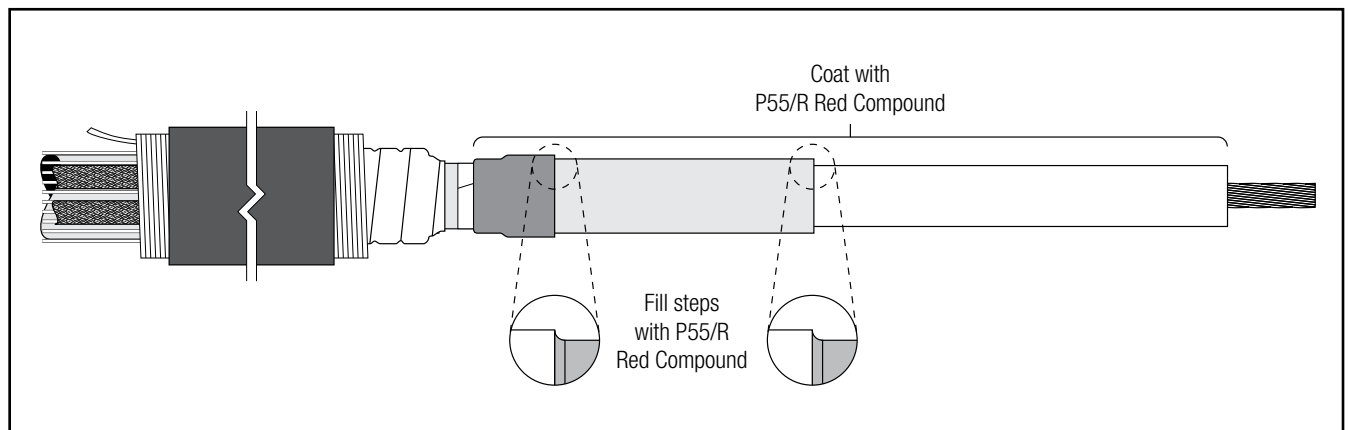

Figure 24
- 6.5 Apply 2 tubes 3M™ Red Compound P55/R to the exposed insulation and stress control adapter. Fill the top edge of the stress control tube with the 3M™ Red Compound P55/R. (Figure 24)